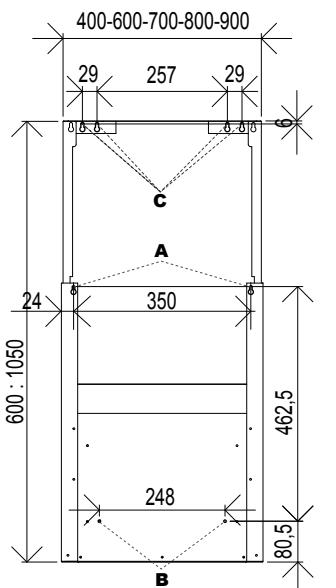

Fig. 4
- Insert the telescopic chimney in stainless steel on the hood body (Fig.4).